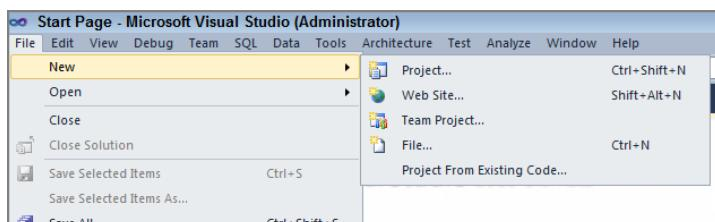

Figure 3-1
1. Click File in the top-left corner of SSDT and select New > Project, as shown in Figure 3-1. The New Project screen will open at this point. Select Report Server Project under the Installed Templates list on the left.